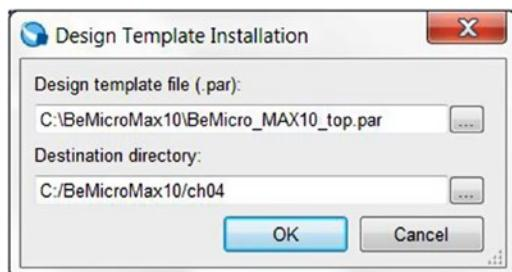

Figure 4-11. Design Template installation
12. Click **Install the design template** in the New Project Wizard—Design Templates. Enter the location of the BeMicro_MAX10_top.par and click OK (Figure 4-11).